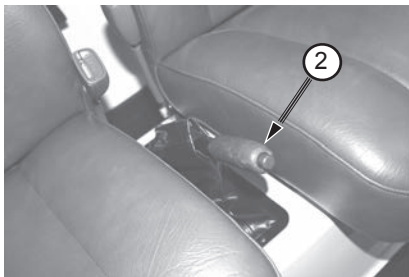

Figure 8 - Parking Brake (models e4, e6)
2. Parking Brake (models e4, e6) Figure 8